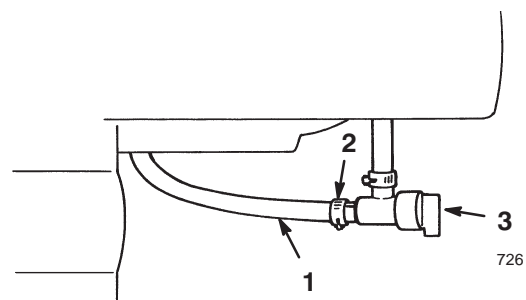

Figure 21
- **Fuel Shutoff Valve** (Fig. 21)—Close the valve by rotating it clockwise. Open the valve by rotating it counterclockwise. Close the valve when you do not use the snowthrower.
4. Open the fuel shutoff valve below the fuel tank (Fig. 21).
5. Close the fuel shutoff valve (Fig. 21).